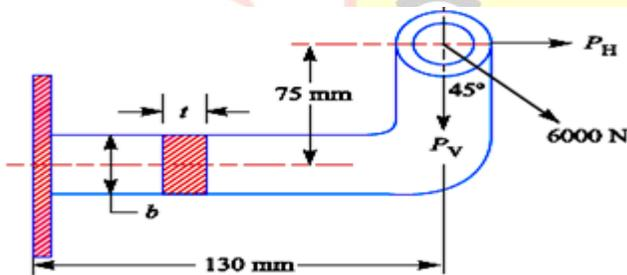

Fig.5
8. A mild steel bracket as shown in Fig 5. is subjected to a pull of 6000N acting at 45° to its horizontal axis. The bracket has a rectangular section whose depth is twice the thickness. Determine the cross-sectional dimensions of the bracket, if the permissible stress in the materials of the bracket is limited to 60 MPa.